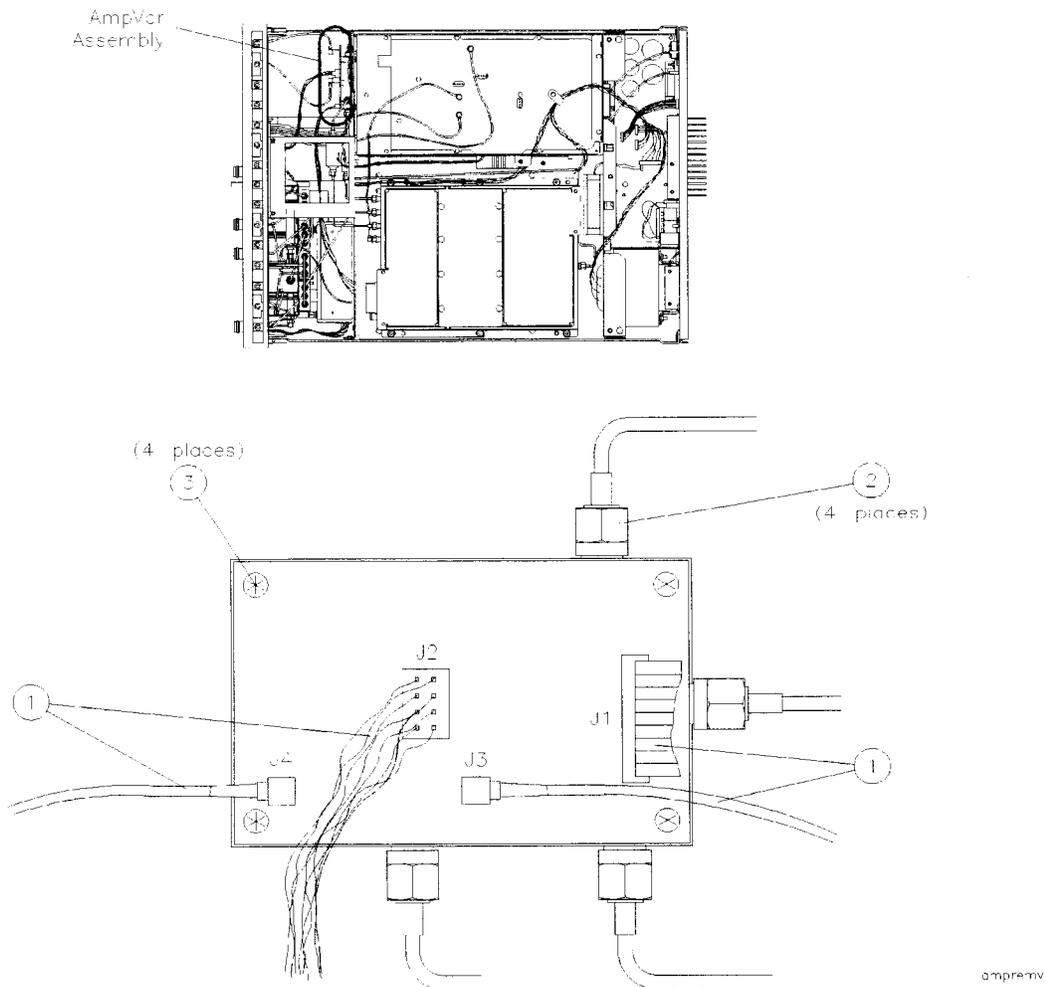

Figure 4-7 A14 and A14A1 AmpVar Assemblies Replacement
2. Remove the ribbon cable from J1, the cable assembly from J2, and two coax cables from J3 and J4 on the A14A1 AmpVar board (1). Refer to Figure 4-7.
3. Disconnect the four semi-rigid cables from the A14 AmpVar assembly (2).
4. Remove the four screws located in the corners of the AmpVar assembly (3).
2. Replace the four screws located at the corners of the AmpVar assembly (3). Refer to Figure 4-7 on page 4-15.
3. Connect the four semi-rigid cables to the AmpVar assembly (2).
4. Connect the ribbon cable to J1, the cable assembly to J2, and two coax cables to J3 and J4 on the A14A1 AmpVar board (1).